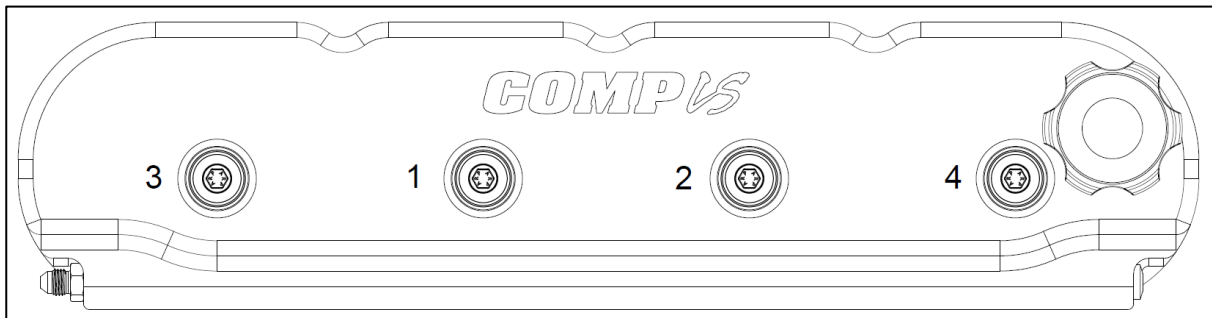

Figure 4 - Valve Cover Torque Sequence
- Before bolting the COMP Cams® Billet LS Valve Covers to the cylinder heads, please ensure that the valve cover bolt grommets (Item 13) are installed in the bolt holes and the valve cover gasket (Item 10) is properly seated in the receiving channel. The kit also includes (8) polished ARP stainless steel bolts and washers (Items 11 and 12) for securing the valve covers to the cylinder head. Torque valve cove bolts to 106 in-lbs, following the sequence in Figure 4.